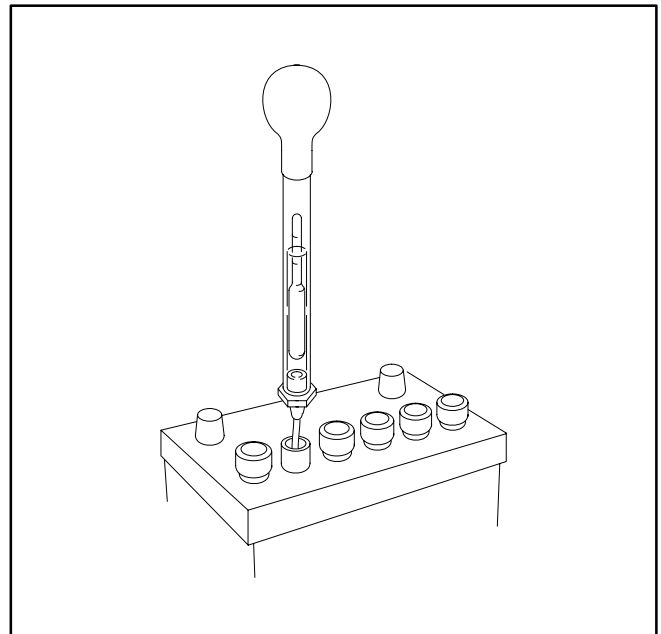

FIGURE 4-4. BATTERY CHECK WITH HYDROMETER
6. Use a battery hydrometer to check the specific gravity of the electrolyte in each battery cell (see Figure 4-4). Charge the battery if the specific gravity measures less than 1.215. Do not overcharge the battery. Stop charging the battery when the electrolyte specific gravity reaches 1.260, at approximately 80° F (27° C).